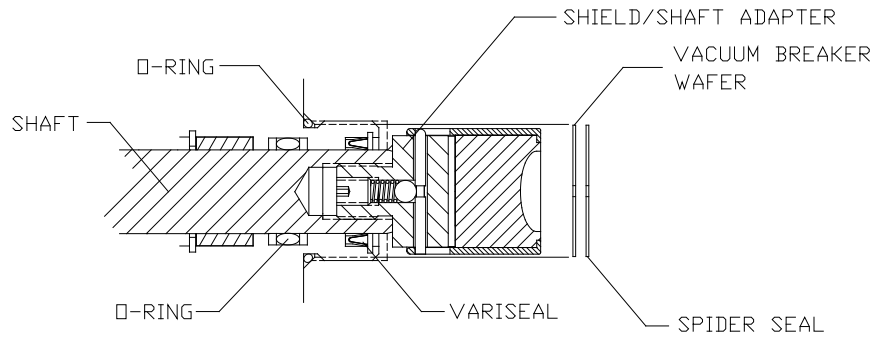

FIGURE 7
- 3.2.10 To unscrew the shield/shaft adapter, hold on to the motor housing. With a wrench, unscrew the adapter from the shaft (see Figure 7).